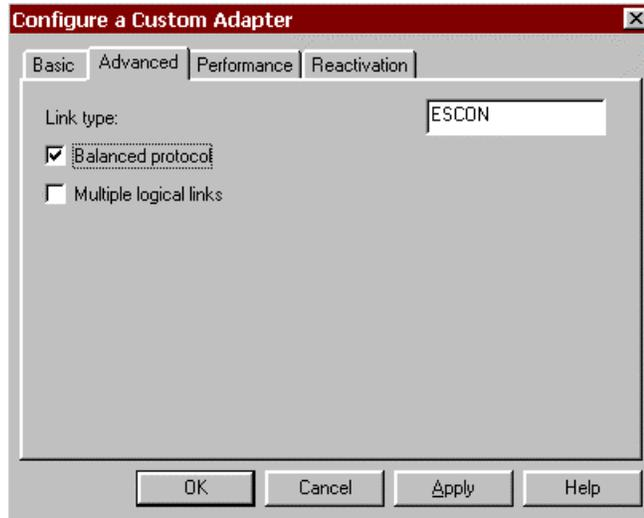

Figure 10-5. Completed Configure a Custom Adapter Advanced Screen
3. Once all fields are defined, continue by clicking the **Advanced** tab (Figure 10-5).